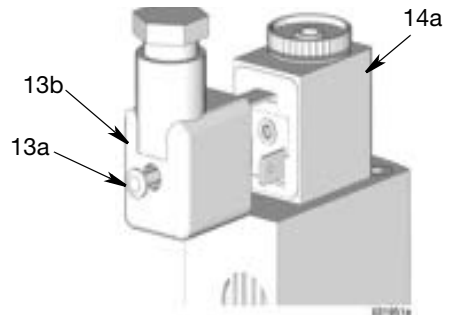

FIG. 10
- Reconnect the DIN connector (13b) to solenoid connector (14a) (FIG. 10).
- Tighten screw (13a) on back of mini DIN solenoid connector (13b) (FIG. 10).